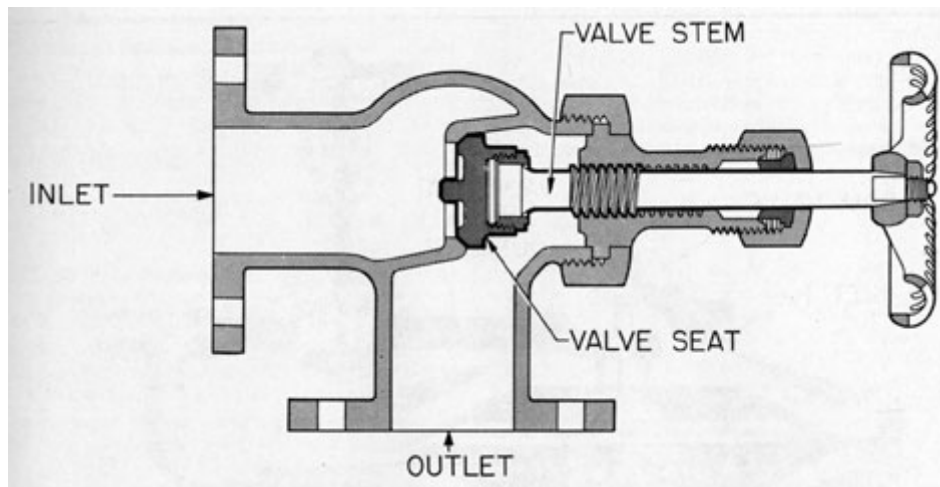

Figure 7-3. Bypass valve.
**7C3. Bypass valve.** This valve (Figure 7-3) on the Model X-1 unit is located on top of the upper head plate. It is not built into the head plate as in the Model S unit, but is an individual device, bolted on. It is a stop valve and when open, it permits the compressor discharge to return directly into the vapor separator. It is opened when starting, and closed during distillation.